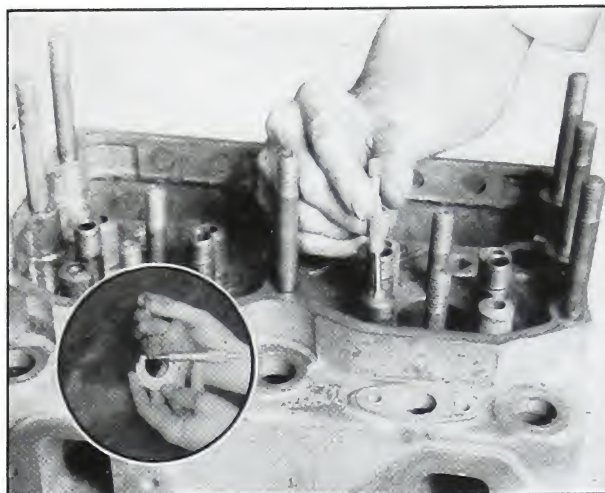

Fig. 3-5. Checking valve guides
5. A plug gauge is *not* satisfactory to gauge worn holes. It will not detect an out-of-round hole. Instead, use a small bore gauge—Starrett No. 829-D, or similar. (Fig. 3-5).